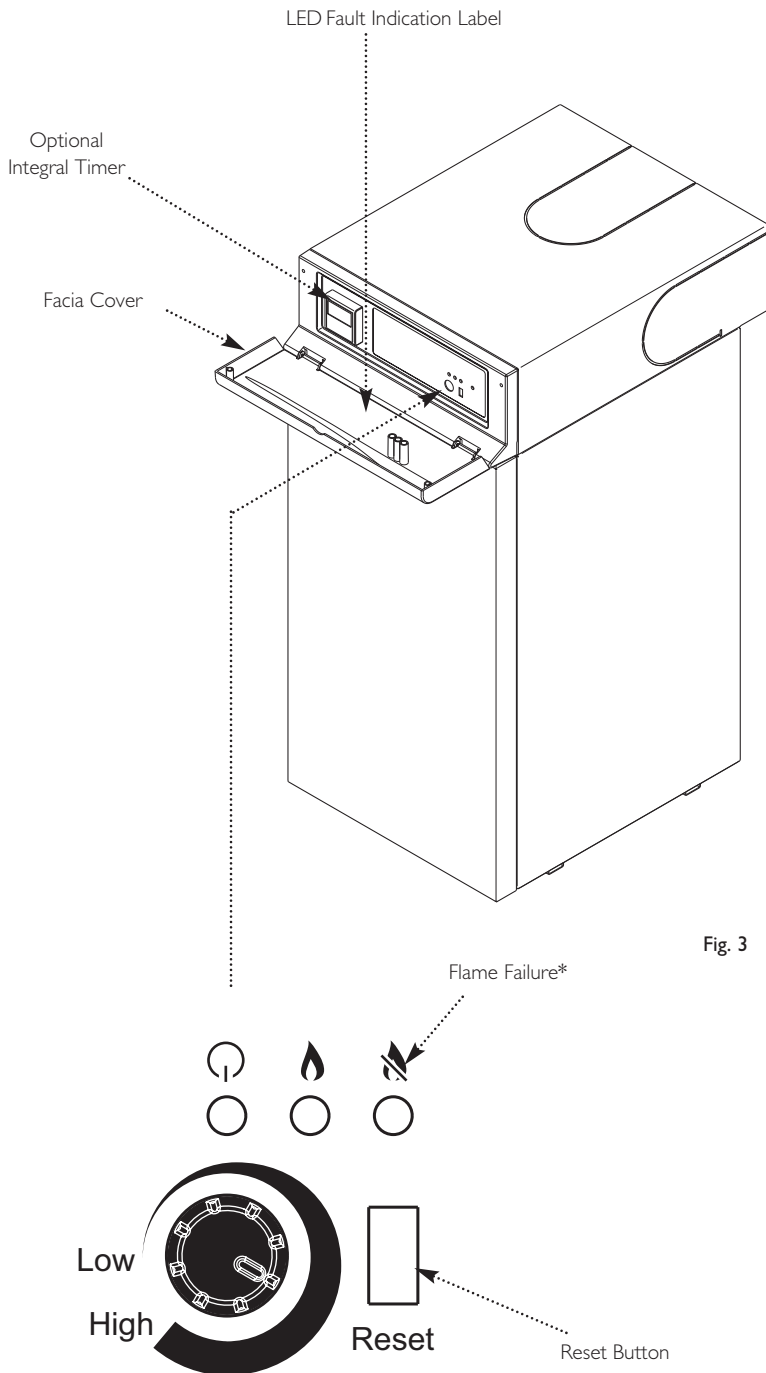

Fig. 3
2. The Flame Failure light (  ) will be either flashing or permanently illuminated and the boiler will need resetting (Fig. 3).
- Press the Reset Button (Fig. 3).